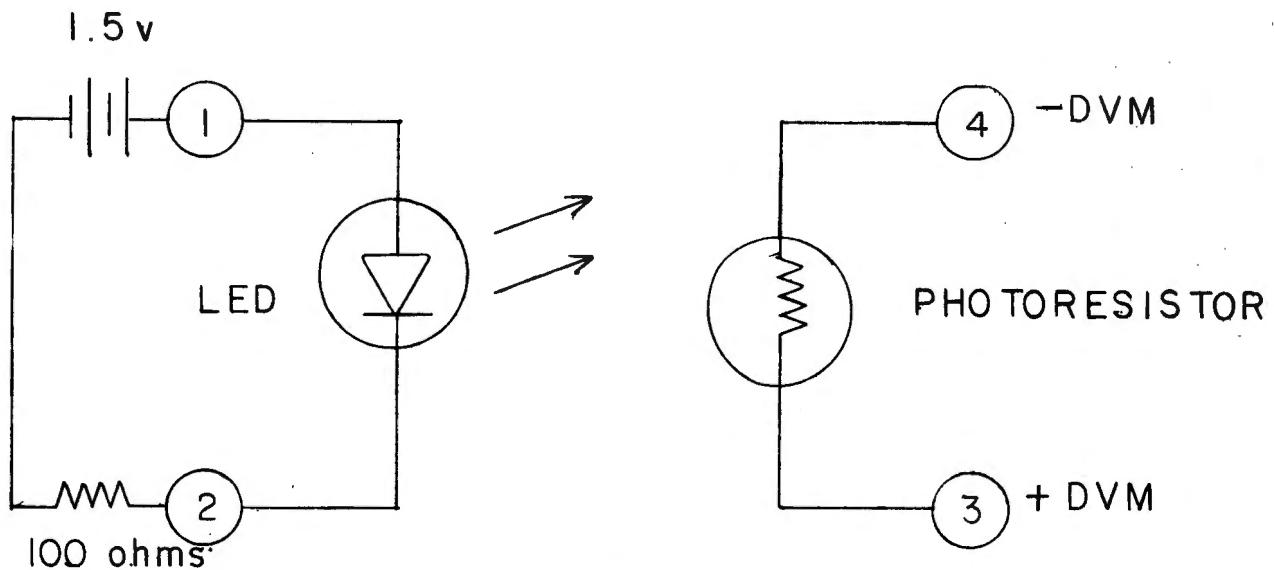
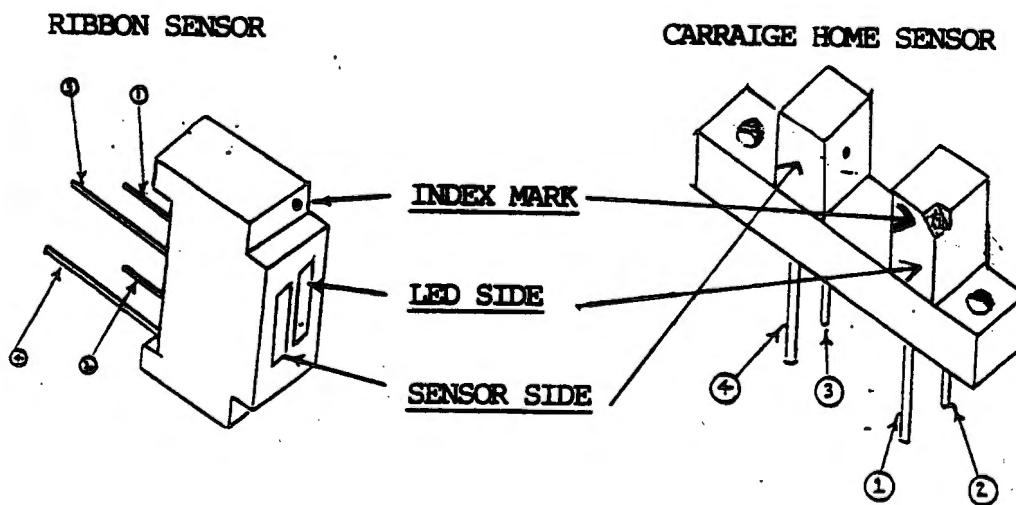

FIGURE 1
FIGURE 2
- 1) Measure the front to back resistance ratio of the LED (refer to figure 1) using the R x 200K scale. The LED should read near infinity in one direction and approximately 160k ohms in the other. If it does not replace the sensor.
- 2) Connect the positive probe of the multimeter to pin 4 of the ribbon sensor and the negative probe to pin 3 (refer to figure 2). The meter should read infinity. If it does not the sensor is bad; replace it.
- 3) Connect the positive probe to pin 3 and the negative probe to pin 4 (refer to figure 2). Ambient light should be sufficient to cause a decrease in the ribbon sensor's resistance to approximately 90k ohms. By covering the sensor with a finger, the reading should change to infinity. If the sensor does not change then replace it. The carriage home sensor requires the LED to be activated in order to read the sensor. To activate the LED (refer to figure 1) connect the positive end of a 1.5v battery to the pin 1 (anode) of the sensor. Connect the negative end of the battery to a 100 ohm resistor and connect the resistor to pin 2 (cathode). Connect the positive probe of the multimeter to pin 3 and the negative probe to pin 4. By placing a piece of paper between the LED and the photo resistor a change should be noted. When the paper is inserted the meter should read infinity and when the paper is removed the meter should read approximately 90k ohms. If it does not, replace the sensor.